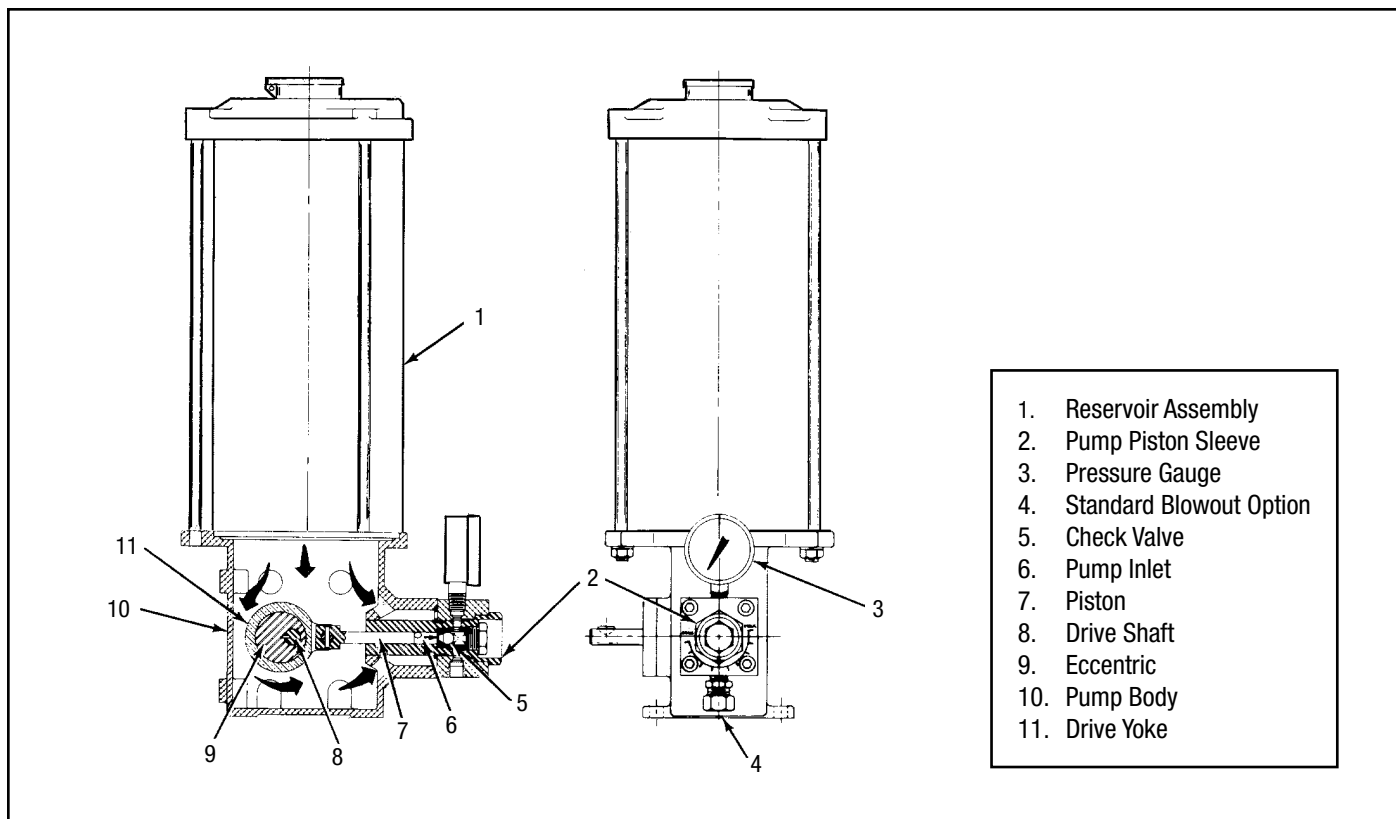

Figure 1-1. LUBEMASTER Pump
1.2.1 Figure 1-1 shows a functional schematic of a LUBEMASTER Pump and the following steps outline the operating sequence.
- a. Grease or oil in reservoir assembly (1) keeps the pump body (10) full of lubricant during normal operation and maintains a head pressure to accomplish two objectives. These are: